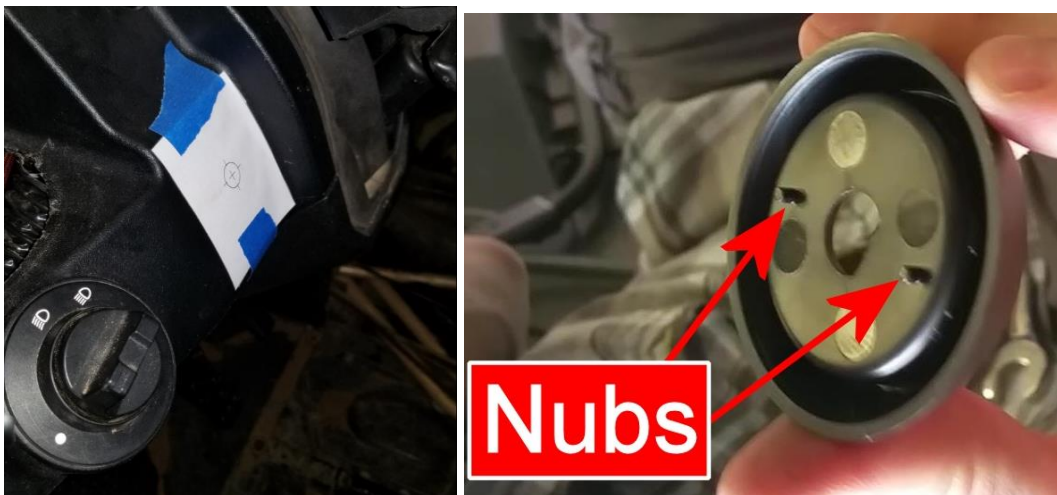

Figure 10
27. Cut out Template #4 and tape it to the area left of the steering column as shown in Figure 10. Use a 7/16" drill bit to make a hole for the switch armature to pass through. NOTE: Verify there is nothing behind the hole location prior to drilling.
28. Locate the Switch Bezel with the 0,I,II,III markings and cut off the two plastic nubs on the reverse side as shown in Figure 10.